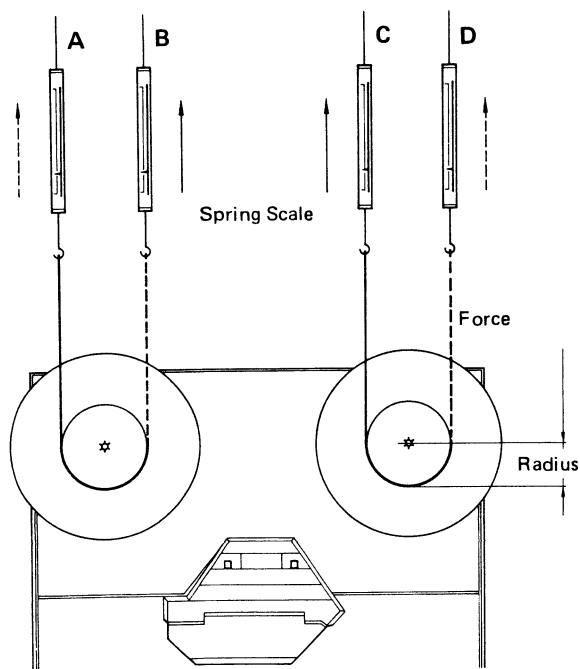

Fig. 2-3.
1. Mount an empty 7" reel onto either reel table and attach a spring scale to the reel with a string. See Fig. 2-3.
- Follow steps 1 and 2 for each measuring condition; i.e., (A) through (D) in Fig. 2-3.